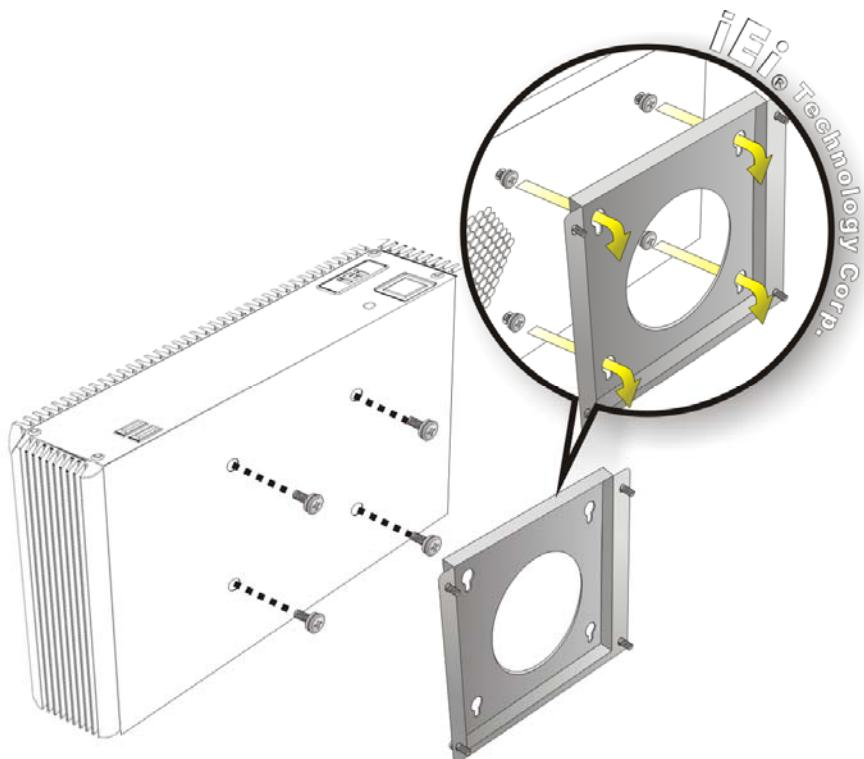

Figure 3-24: Mount the Embedded System
Step 6: Insert the four monitor mounting screws provided in the wall mounting kit into the four screw holes on the bottom panel of the system and tighten until the screw shank is secured against the bottom panel (**Figure 3-24**).
Step 8: Carefully insert the screws through the holes and gently pull the monitor downwards until the ECW-281B-BTi rests securely in the slotted holes (**Figure 3-24**). Ensure that all four of the mounting screws fit snugly into their respective slotted holes.